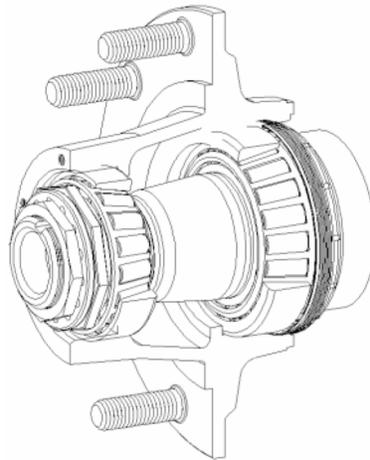

FIGURE 1—CONVENTIONAL WHEEL END
- 3.3 Conventional Wheel-end**—A wheel-end assembly that consists of a hub, an inboard seal, two single row tapered roller bearings, and fastening hardware (Figure 1). Conventional wheel-ends use the fastener to establish bearing setting; they do not have a bearing spacer between the bearings.